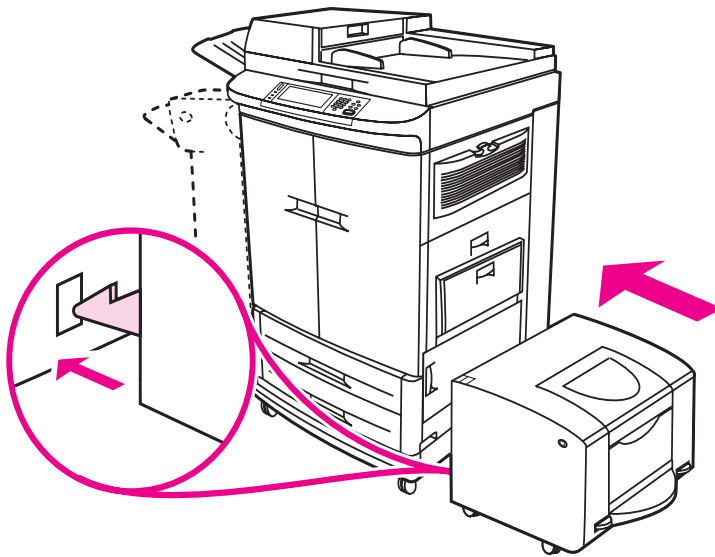

Figure 10. Installing the 2,000-sheet side-input tray (7 of 8)
- 9 Push the tray toward the MFP. The two plastic hooks at the base of the tray lock into the pedestal. See figure 10.